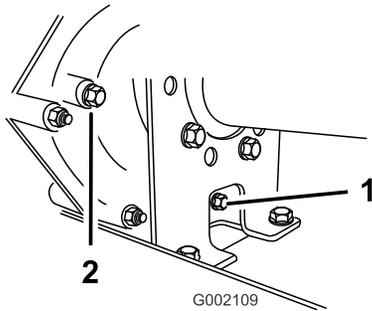
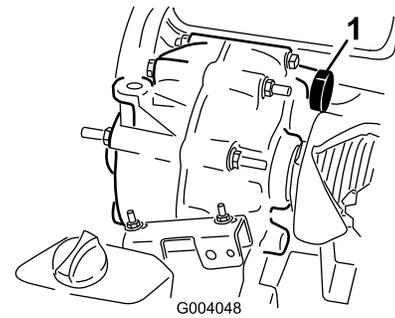

Figure 46
Figure 47
1. Wipe the area around the fill plug clean with a rag (Figure 46).
2. Remove the fill plug by rotating it counterclockwise (Figure 46).
3. Check the transmission-oil level by looking into the hole in the transmission for the fill plug (Figure 46).
5. Install and tighten the fill plug and gasket into the fill-plug hole of the transmission (Figure 46).
1. Wipe the area around the fill and drain plugs clean with a rag (Figure 46).
7. Install and tighten the fill plug and gasket into the fill-plug hole of the transmission (Figure 46).
9. Check the oil level and add more oil if the level is below the threads of the fill-plug hole (Figure 46).
3. Remove the fill plug by rotating it counterclockwise (Figure 46).
4. Remove the drain plug by rotating it counterclockwise (Figure 46).
5. Install and tighten the drain plug and gasket into the drain-plug hole of the transmission (Figure 46).
6. Fill the reservoir (Figure 47) through the fill-plug hole with approximately 1.4 L (1-1/2 qt) of the specified oil or until the oil level in the transmission is even with the bottom of the threads. (Figure 46).